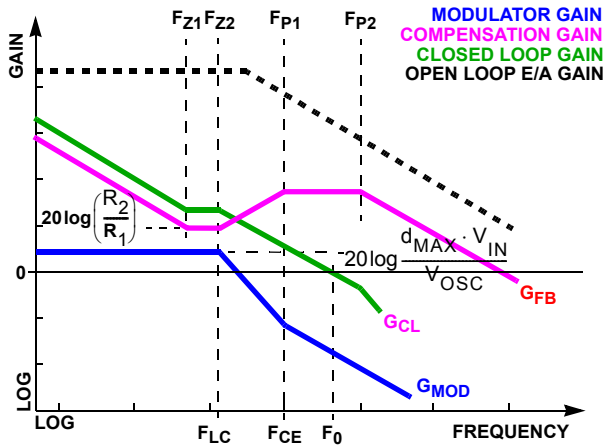

FIGURE 27. ASYMPTOTIC BODE PLOT OF CONVERTER GAIN
Figure 27 shows an asymptotic plot of the DC/DC converter’s gain vs frequency. The actual Modulator Gain has a high gain peak dependent on the quality factor (Q) of the output filter, which is not shown. Using the previously mentioned guidelines should yield a compensation gain similar to the curve plotted. The open loop error amplifier gain bounds the compensation gain. Check the compensation gain at F_{P2} against the capabilities of the error amplifier. The closed loop gain, G_{CL} , is constructed on the log-log graph of Figure 27 by adding the modulator gain, G_{MOD} (in dB), to the feedback compensation gain, G_{FB} (in dB). This is equivalent to multiplying the modulator transfer function and the compensation transfer function and then plotting the resulting gain.